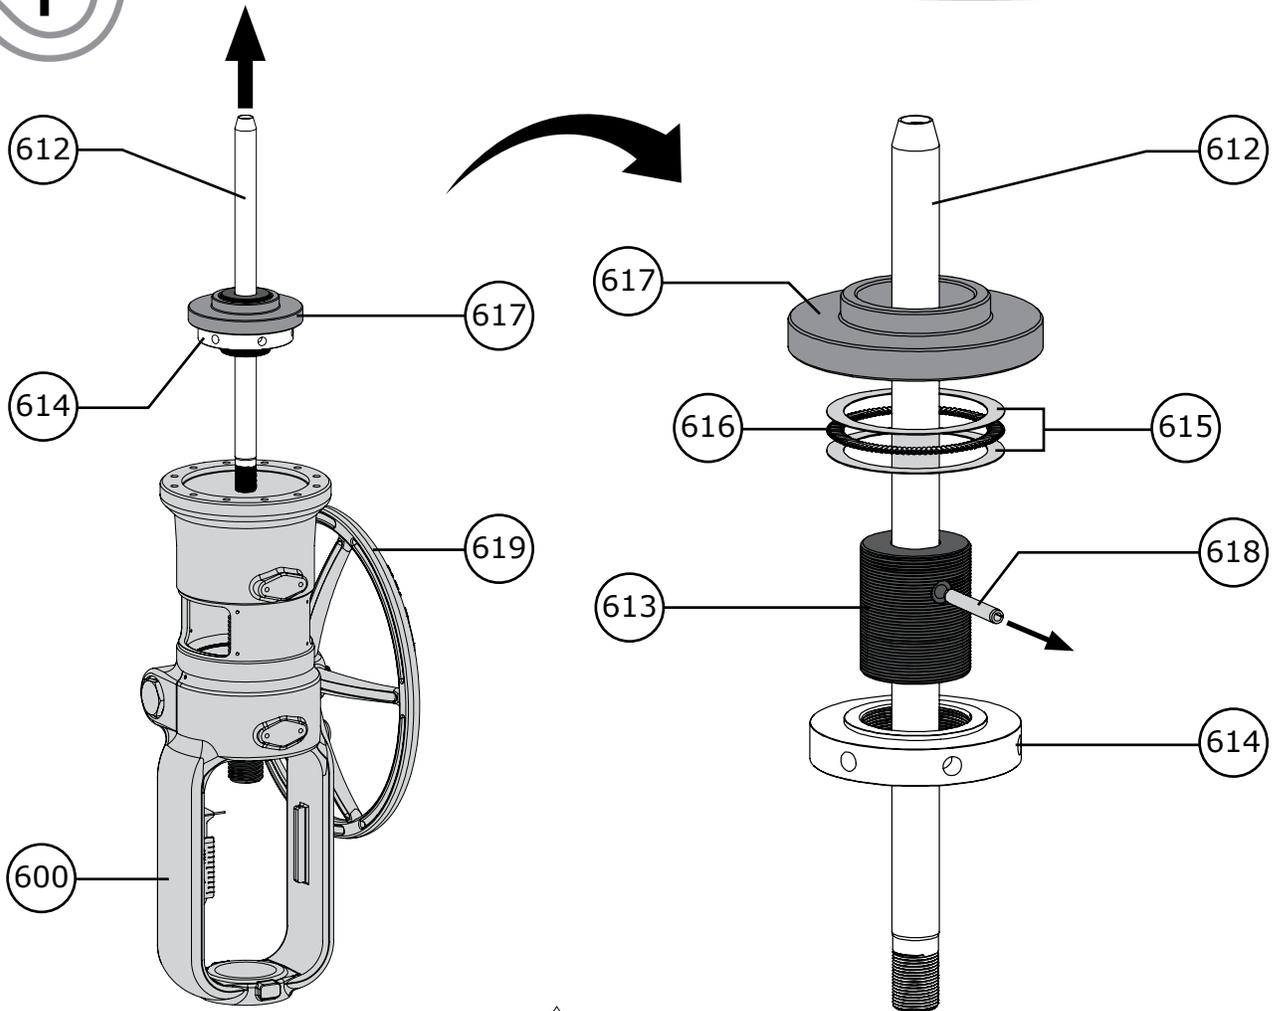

Figure 80 Actuator Stem Assembly Removal and Disassembly
- 15** Remove the actuator stem (Key 612) by pulling it up and out of the yoke (Key 600). **NOTE:** The spring seat (Key 617), spring adjuster (Key 614), thrust bearing (Key 616), spring adjuster screw (Key 613), and roll pin (Key 618) are all attached to the actuator stem and will be removed along with it. Be careful when pulling the actuator stem assembly out the yoke. Refer to Figure 80.
- 16** If necessary, separate the actuator stem assembly (Keys 612, 613, 614, 615, 616, 617, 618) by removing the spring seat (Key 617) and thrust bearing (Keys 615 & 616). Then, using a punch, remove the roll pin (Key 618) and separate the spring adjuster (Key 614), spring adjuster screw (Key 613), and actuator stem (Key 612). Refer to Figure 80.